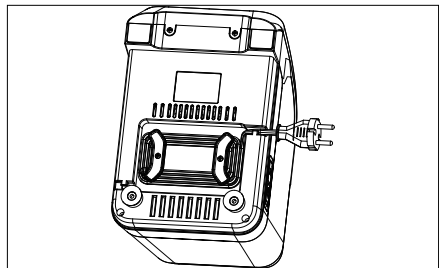

Fig. 22
- ▶ Wind the cable around the cable spool (6) as shown in Figure 22 on the underside of the appliance and guide the end of the cable through the side cable ducting (5).